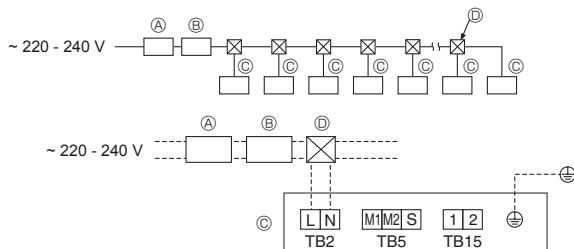

Fig. 5-8
5.3. Power supply wiring (Fig. 5-8)